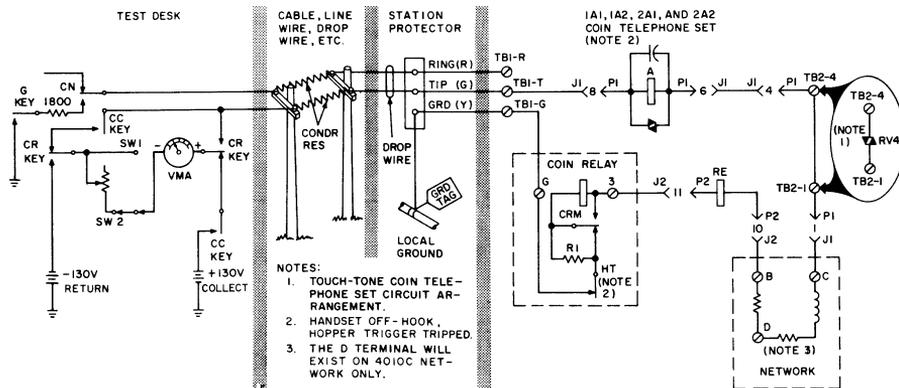

Fig. 1—Coin Relay Current Flow Test—1A/2A-Type (Coin-First)
1. This test must be conducted with a craftsperson at the coin station. Use Fig. 1, 2, 3, and 4.